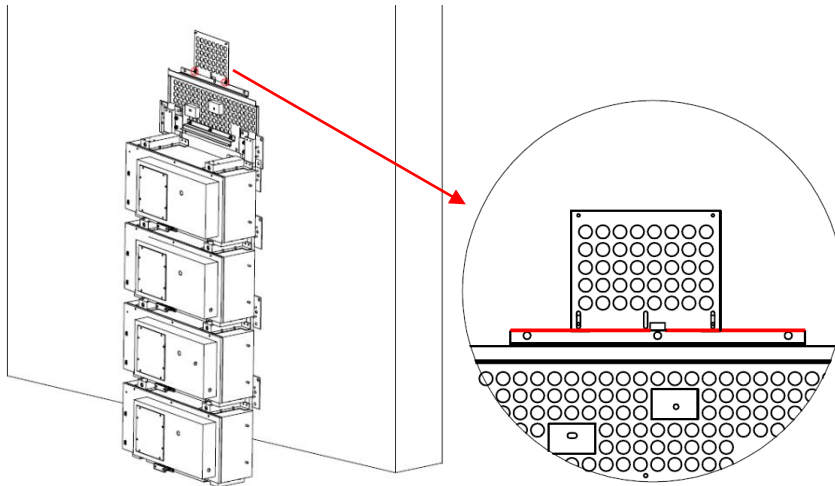

Figure 18 Installation of the Bracket A of the Inverter
Step 10: Please remove the nuts from the rear bracket of HV50056 and fix the bracket A of the inverter on the rear bracket of HV50056 with the flange nuts, as shown in Figure 18.